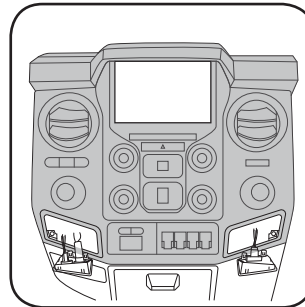

Fig. 1.3
2. Unclip and remove the radio and climate control panel. Unplug the connectors. (Fig. 1.3)